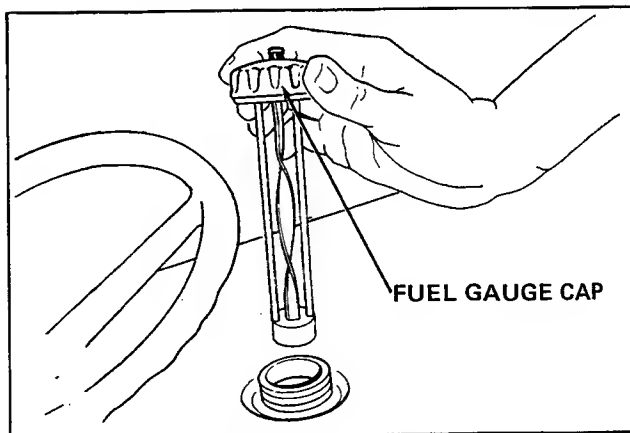

Figure 3. Fuel Gauge Cap
- a. Remove fuel gauge cap as shown in figure 3.